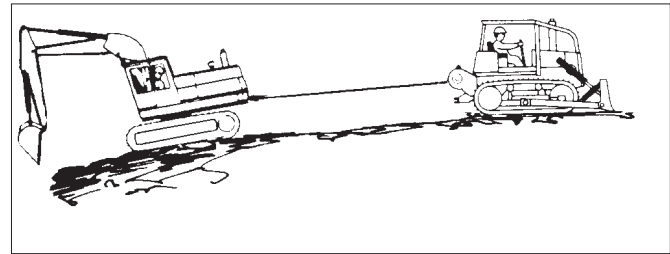

Figure 21 Moving a Disabled Vehicle (Step B)
B. A tractor or skidder equipped with a winch can be used to pull another vehicle from mud or other areas where it cannot move using only the drive wheels or tracks. See Figure 21. Use the following procedure: